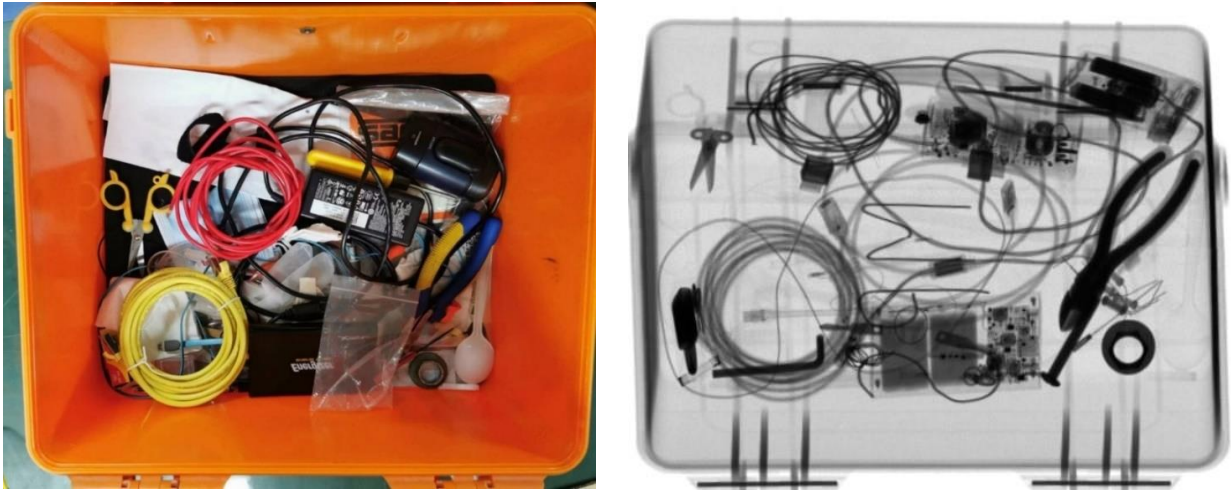

Figure 1: X-Ray Image Captured Using the MDC91128
The MDC91128 is a highly integrated, low-noise, current input analog-to-digital converter \(ADC\) designed to scan 2D x-ray, 3D computed tomography (CT), and other photodiode applications with a high channel count. Figure 1 shows an actual x-ray scan from a system using the MDC91128.